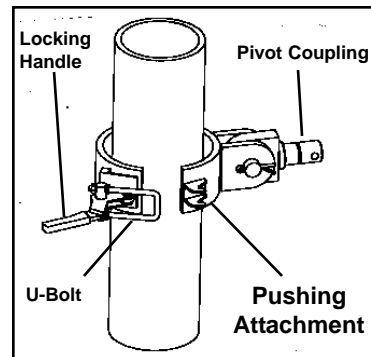

Figure 36
3. Secure pushing attachment to tower pipe. (See Figures 36 and 37.) Make certain the attachment's pivot coupling is perpendicular with the rail to be pushed.